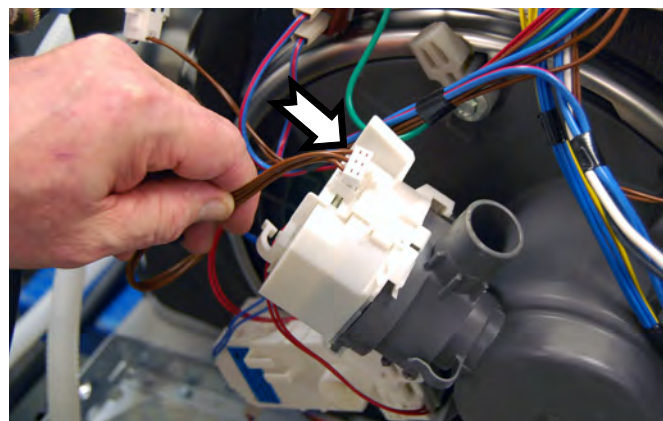

Figure 5
4. Unplug the wire harness connected to the drain pump, see figure 5.